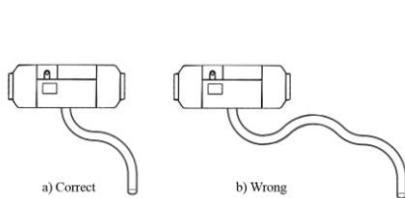

Fig. 22
4.6.3 Both the air inlet pipe and exhaust pipe shall come outwards and downwards from the heater (Fig. 22), otherwise a  $\Phi 4\text{mm}$  hole shall be prepared at the bottom of the pipe for discharge of condensation water. If the pipe need curve, the radius cannot be smaller than 50mm. Also, the sum of all curve angles for each pipe shall not exceed  $270^\circ$ .